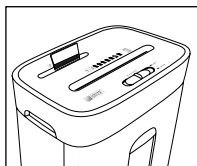

Fig. 8
Insert the credit card from above into the middle of the CD/credit card cutter opening ② (see fig. 8) and move the **REV/OFF/AUTO/FWD** switch ⑧ to the **FWD** ("forward") position.